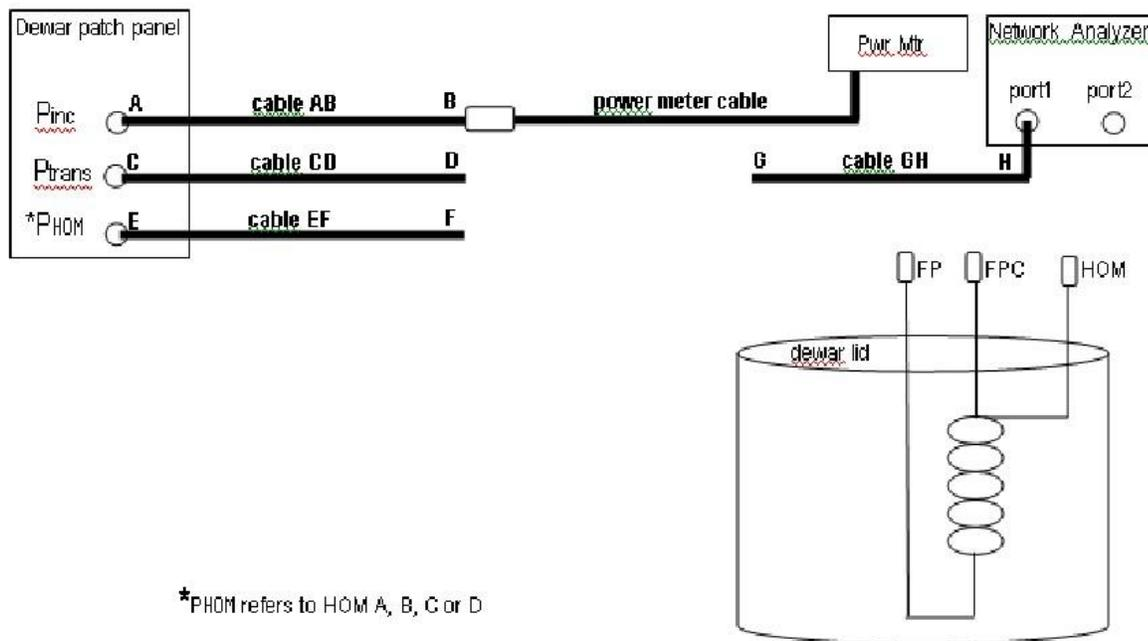

Figure A3. Connect cable AB to cable GH to measure the reflected power from VTA.
- A. Connect cable AB to power meter cable as shown in Figure A3.